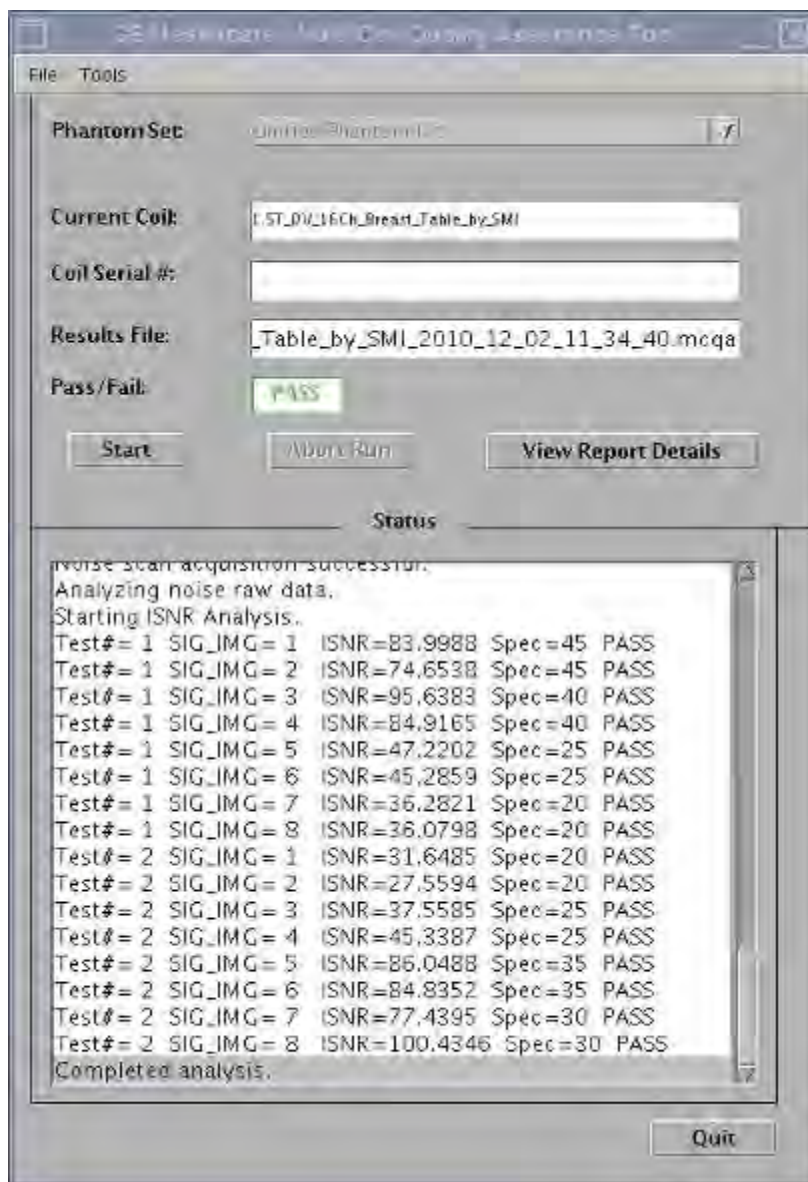

Figure 63: Screen Capture – MCQA Tool Finish
7. Click 'Start', and answer 'Yes' to the dialog box that opens. The MCQA program will run for approximately 10 minutes, and test each channel of the system independently. When the program finishes, the screen capture shown in Figure 63 will display.
8. The MCQA program will display a PASS/FAIL indicator for each image (SIG_IMG in Figure 63) which corresponds to a particular channel on one of the coils tested. If you receive a FAIL indication, check that all coils are connected properly and rerun the test. If the test fails the second time refer to the following table. Additional information related to the specific channels used in each imaging configuration is available in section 10 *Electrical Troubleshooting Guidance*.